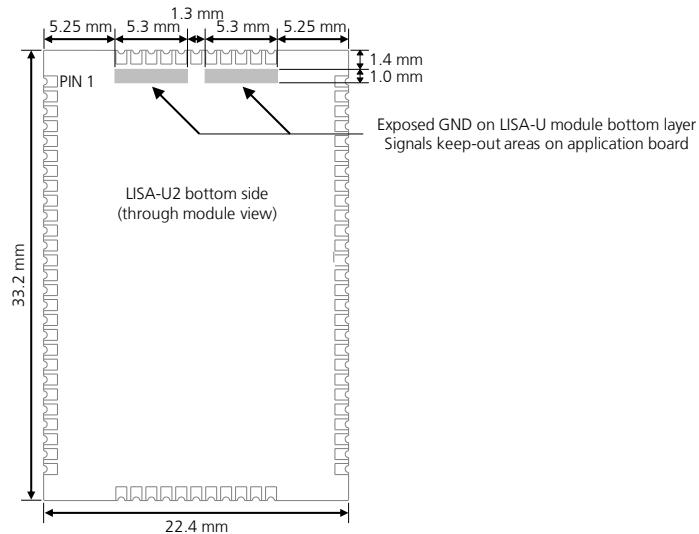

Figure 62: Signals keep-out areas on the top layer of the application board, below LISA-U2 series modules
The bottom layer of LISA-U2 series modules has two unprotected copper areas for GND, shown in Figure 62.
- ☞ Consider "No-routing" areas for the LISA-U2 modules footprint as follows: signal keep-out area on the top layer of the application board, below LISA-U2 modules, due to GND opening on module bottom layer (see Figure 62).